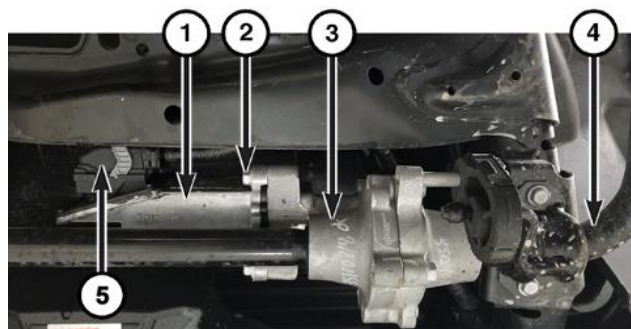

Figure 8 – Disconnect Equipped Stabilizer
WARNING: Disconnect Equipped: The disconnecting stabilizer bar unit (3) is not serviced separately from the bar (4). Do not disassemble this unit from the stabilizer bar (Figure 8).